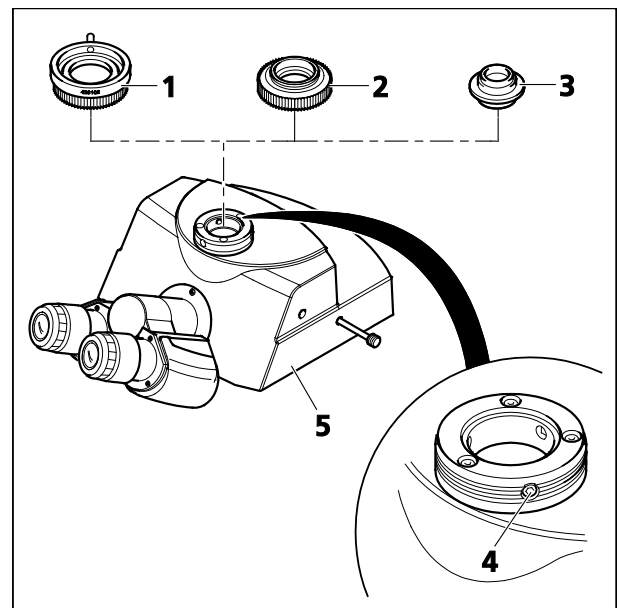

Fig. 16 Fitting components to the phototube
- Fix the camera adapter 60N (Fig. 16/1; 2) to the camera.
Please note: The three set screws (SW 3) (Fig. 16/4) in the camera port must not extend either to the external thread or to the internal bore hole.
- Attach the pre-assembled unit to the camera port, adjust it and fasten the union nut of the adapter (Fig. 16/1 or 2) fingertight.
- Attach the camera adapter 60 (Fig. 16/3) to the camera.
- Turn the set screw (SW 3) on the tube clockwise (Fig. 16/4) until the adapter is tight.